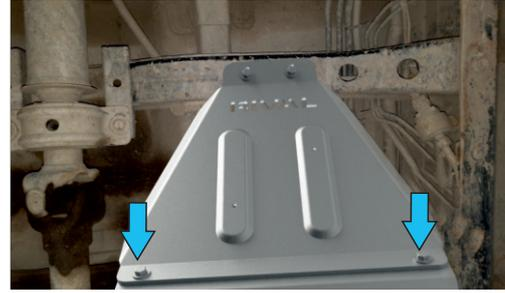

Fig. 13
13. Attach rear part of Gas Tank skid plate p.2 using Bolts M10x25 (pos.C), Flat washers 10mm (pos.E) and nuts M10 (pos.G) (Fig.13).